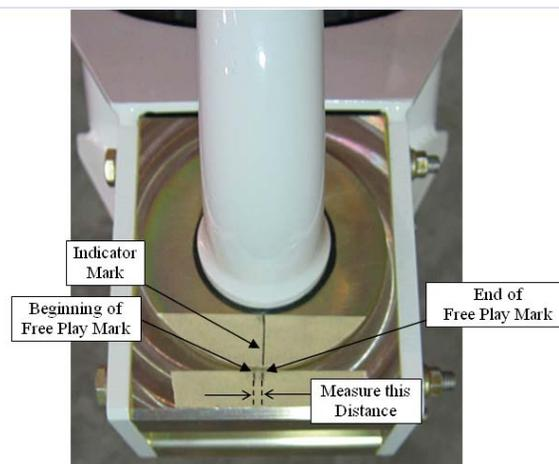

Figure 32-45 Maximum Rotational Free Play
3. Rotate nose wheel castor assembly until shimmy damper mechanism experiences friction drag. This is one end of free play; mark this position on tape located on nose wheel castor assembly. Rotate nose wheel castor assembly in other direction until shimmy damper mechanism experiences friction drag. This is other end of free play; mark this position on tape located on nose wheel castor assembly and measure distance between two marks. (See Figure 32-45).